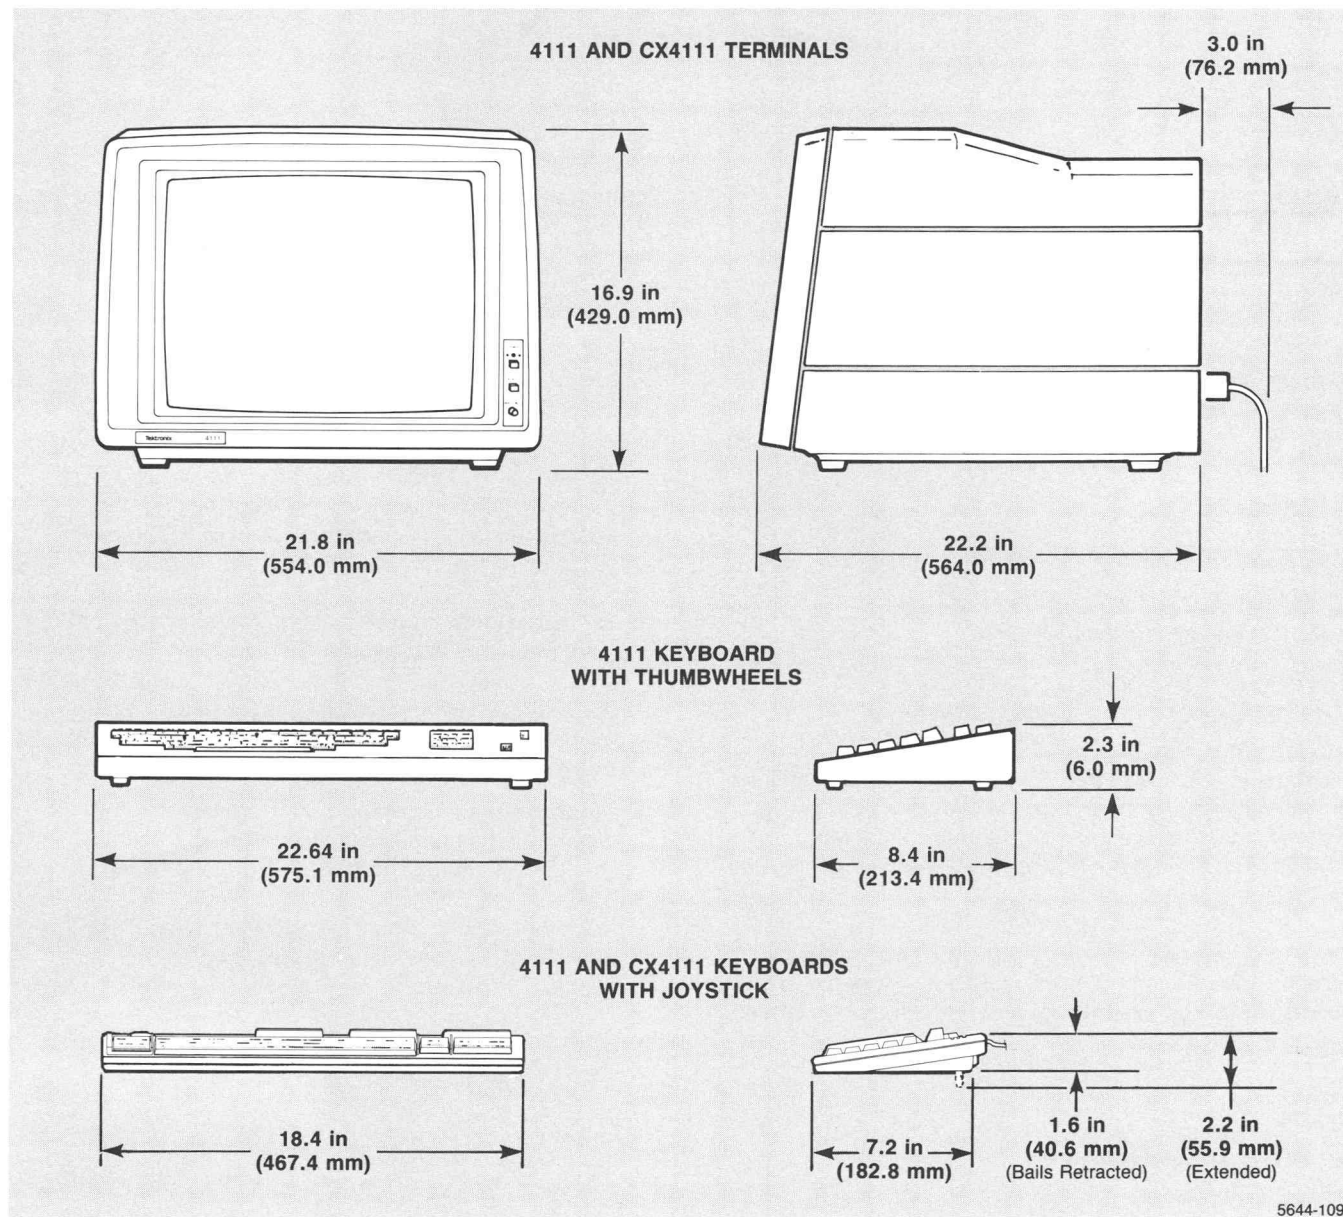

Figure 7-1. Dimensions.
- **The site should provide enough room for adequate ventilation and cable routing.** The terminal air vents should be at least 2 inches (50 mm) from the nearest wall or surface. Allow at least 3 inches (75 mm) at the rear of the terminal for cable routing. Use Figure 7-1 (next page) as a guide.